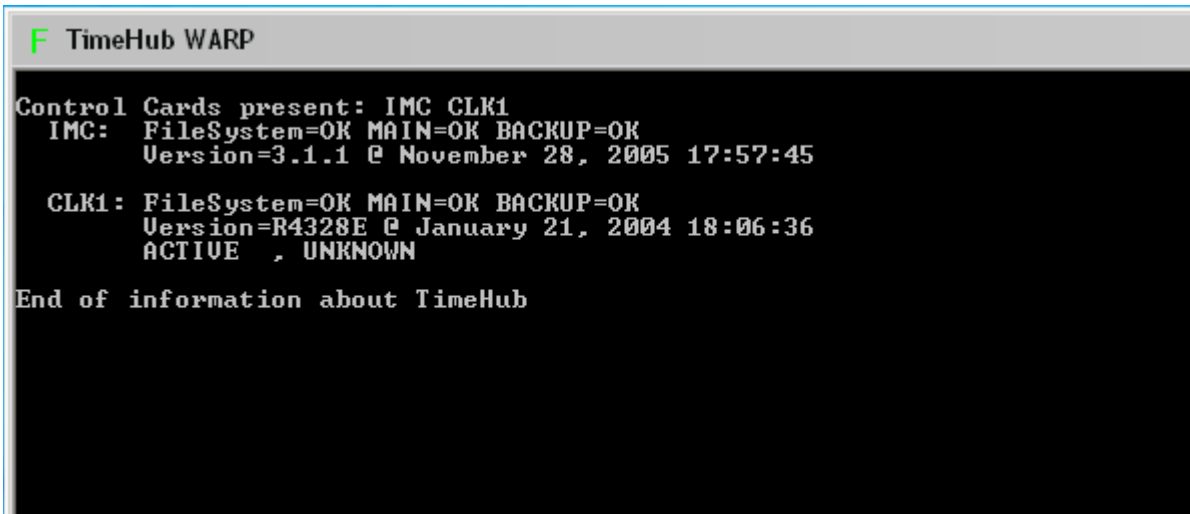

Figure 5-13. The WARP Log Window
5. Click **Rtrv Info**. The current information for the TimeHub appears in a log window, as shown in Figure 5-13. If an error dialog box appears, verify that the entries in the top four fields are valid.